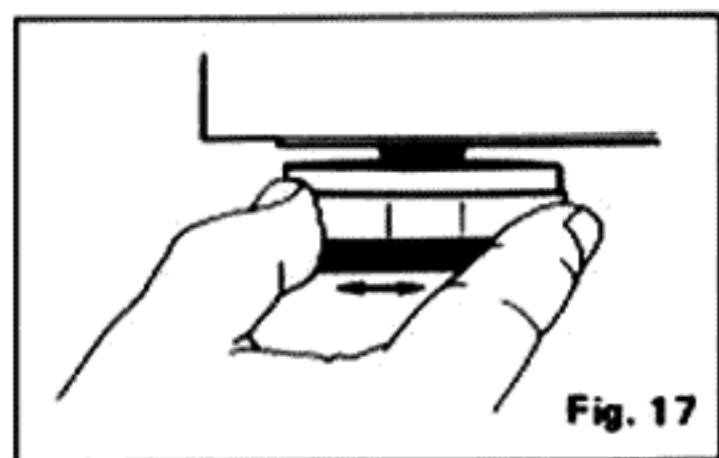

Fig. 17
8. Height adjustment of the isolators (Fig. 17)